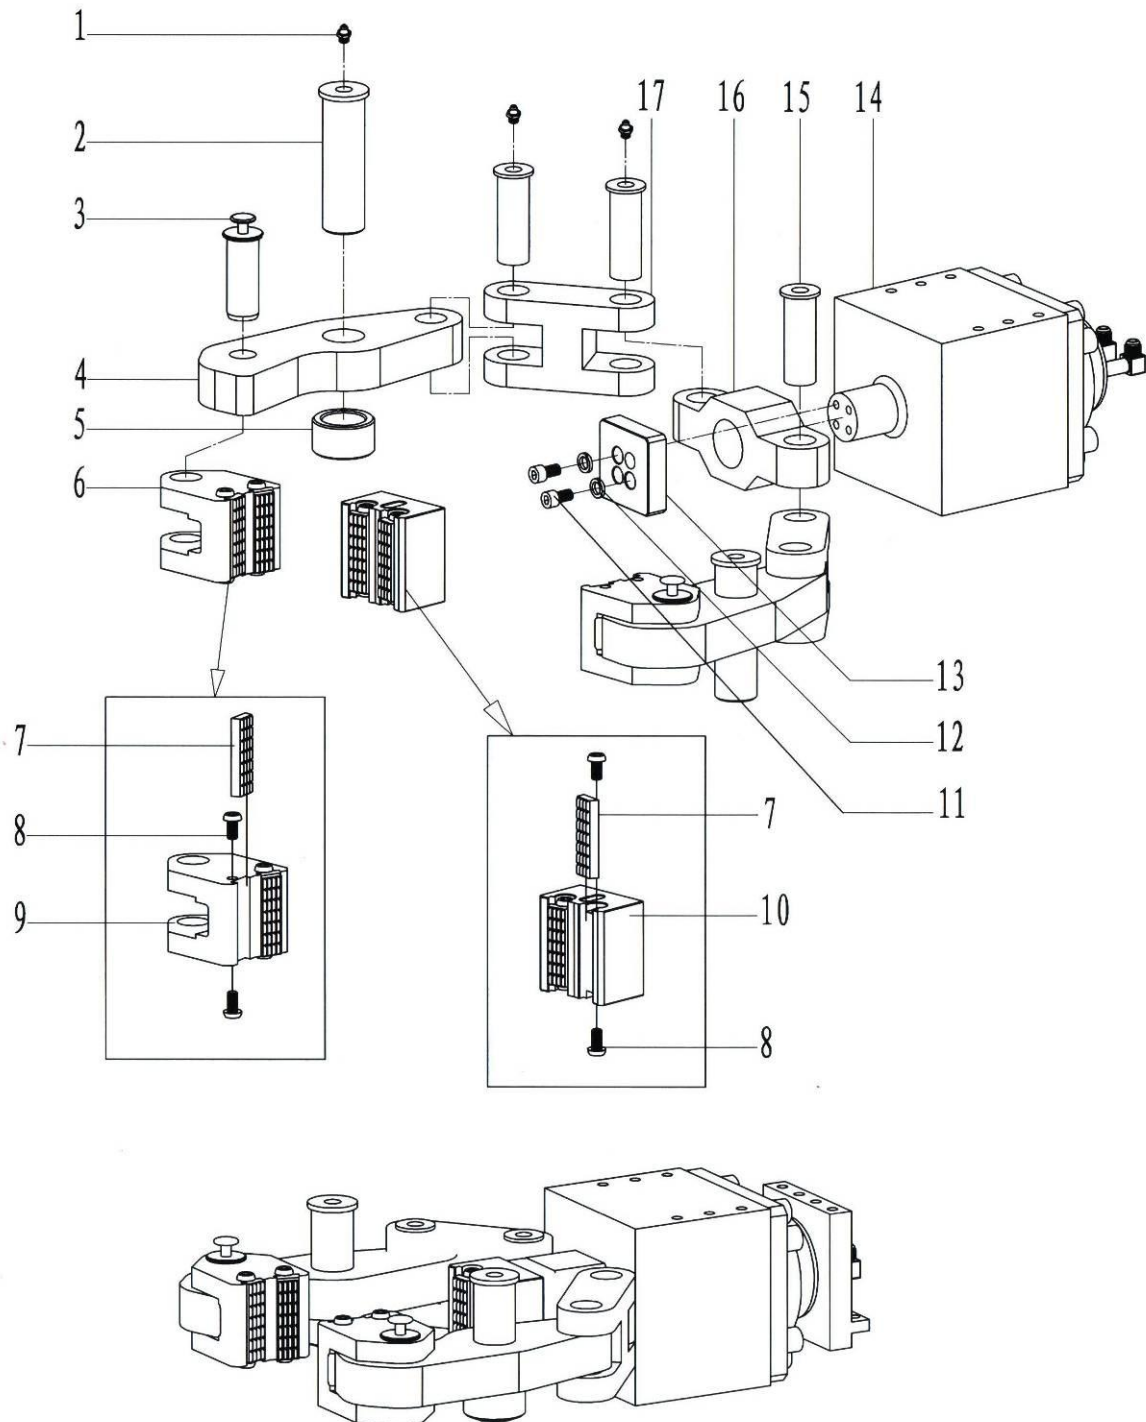

Fig.7-19
19. Assembly of back tong drive (Fig 7-19, Table 19)